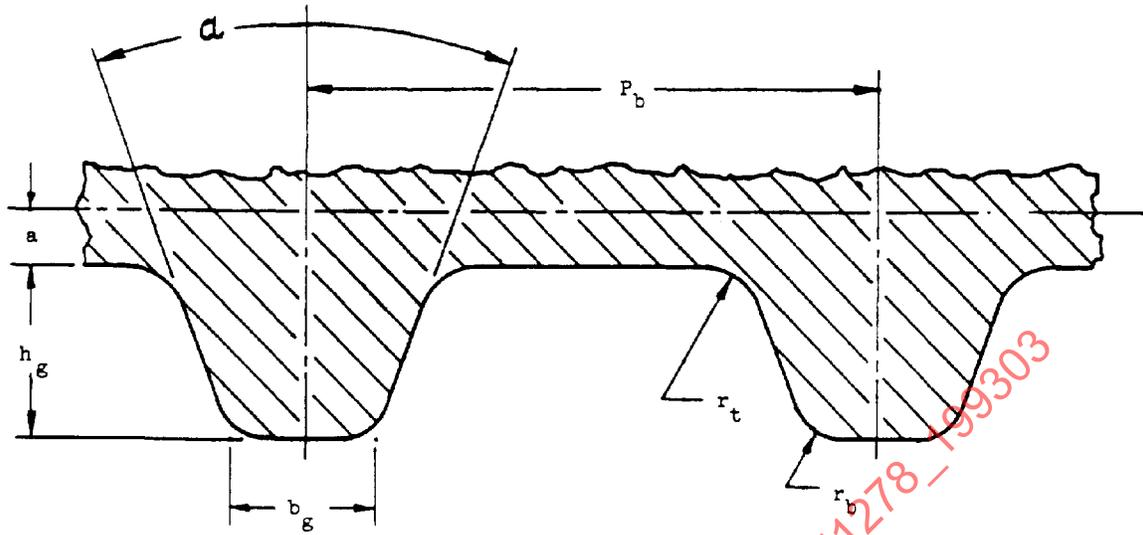
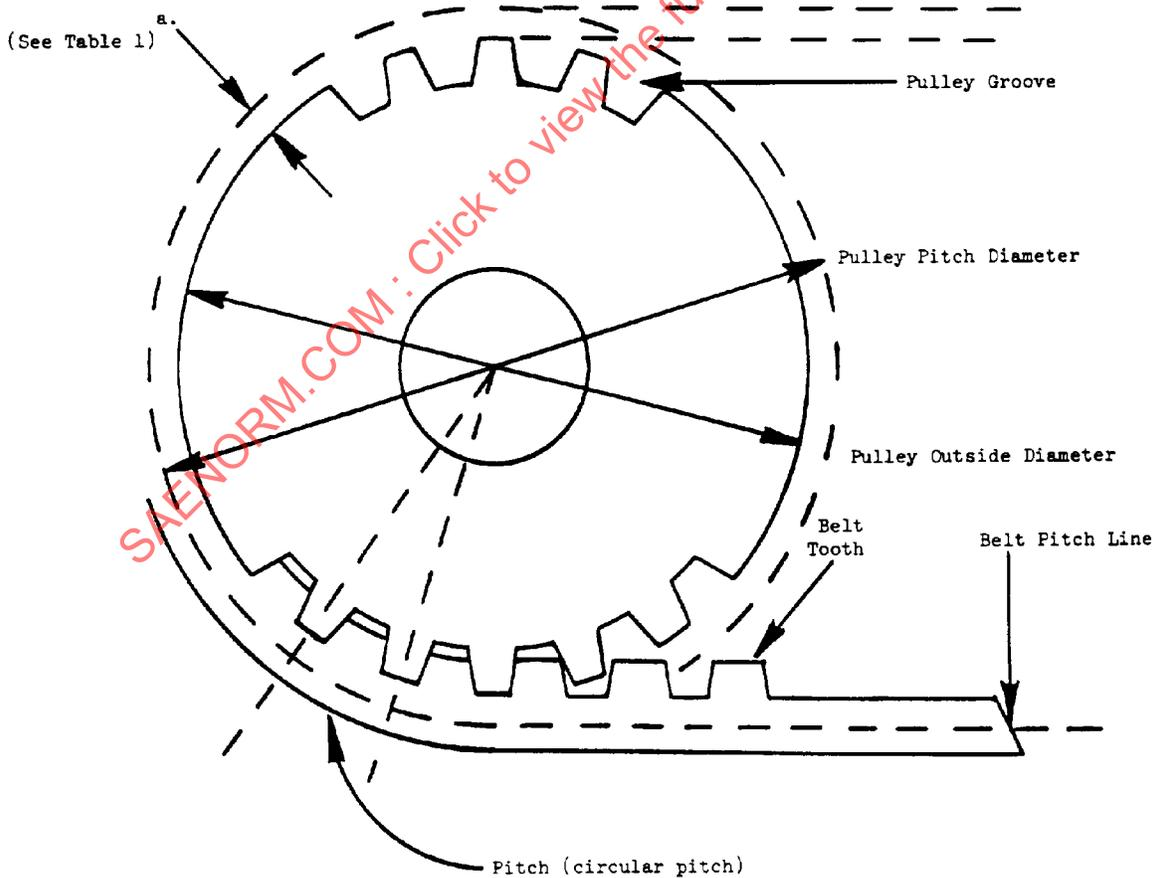

FIGURE 1—PULLEY GENERATING TOOL RACK FORM
FIGURE 2—PULLEY DIMENSIONS
- Belt and Pulley Sections**—Synchronous belt and pulley sections are defined primarily by pitch, which is the linear distance between the axes of two consecutive teeth when the belt is loaded to the prescribed measuring force. Figure 1 and Figure 2 illustrate the location of the pitch line. A two- or three-letter designation is used to identify the standard sections. Two-letter designations identify a specific pitch, tooth form, and pitch line location. For example, an ST section has a pitch of 9.525 mm, while an SU section has a pitch of 12.700 mm. Since it is possible to have more than one section with the same pitch, a three-letter designation is used to identify a section that is a variation of a normal two-letter section. For example, an STA section has the same pitch as an ST section (9.525 mm) and the same tooth form as the ST section, but it utilizes the SU section pitch line location because of belt construction. As a result, STA section belts will not mesh properly with ST section pulleys even though the pitch and tooth forms are the same because it has a larger pitch line differential. Therefore, the STA section belt is a unique section and requires special pulleys designed for this particular section. Should another section with the ST (9.525 mm) pitch be standardized, it would have the section designation of STB.
4.1 **Groove Profile**—The groove profile is defined as the profile formed by the generating tool rack form described in Table 1 and Figure 1. The relationship of pitch diameter to outside diameter is illustrated in Figure 2.